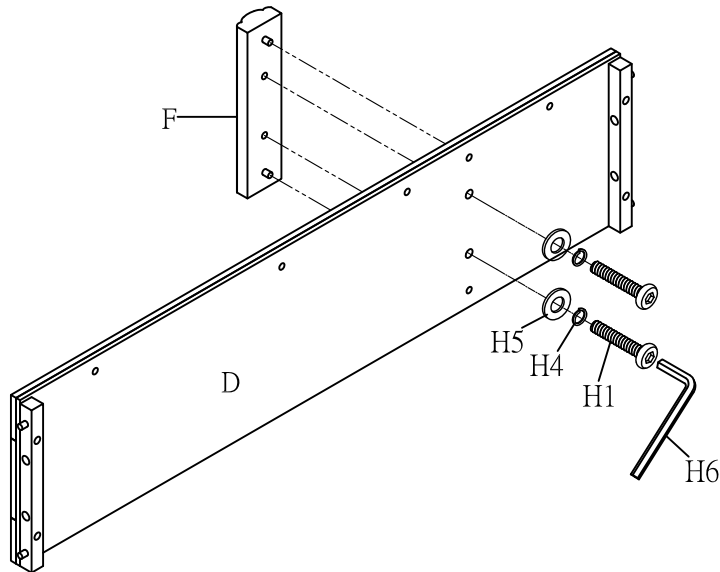

Figure 2
With assistance from other adults, place the Left Side Panel (D) on its edge. Align the tenons of Side Trim (F) with the holes on the finished side of Left Side Panel (D) and attach the Side Trim (F) using Long Bolt (H1), Spring Washer (H4), Flat Washer (H5) and Allen Wrench (H6) as shown in Figure 2. DO NOT fully tighten bolts at this time. Attach Side Trim (F) to the Right Side Panel (E) using the same process.